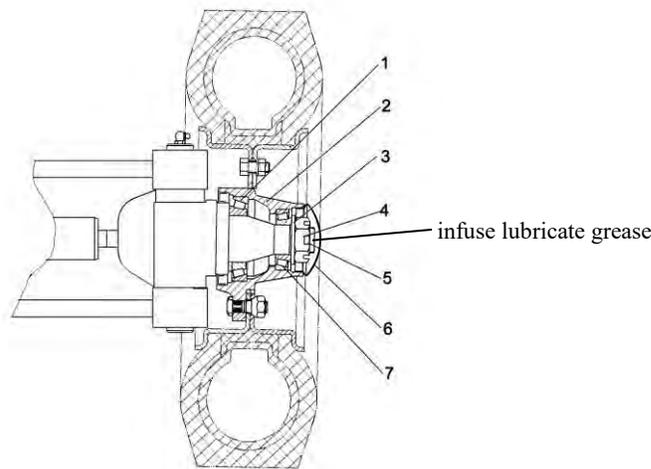

figure 2-38 Adjustment for pretightening force
(1) See figure 2-38, lubricate inner cavity of wheel hub, inside or outside bearing and cover of wheel hub, meanwhile, lubricate oil seal
(2) Fit bearing outer ring on wheel hub and fit wheel hub on kunckle shaft.
(3) Fit washer and tighten castle nut, its tightening torque is 206-235N.m(21-24kgm),then loose castle nut, tightening nut again, at this time, the torque is 9.8N.m(1kgm)
(4) Tap wheel hub gently by wood hammer and rotate wheel hub 3-4 circle to ensure there is no loose of wheel hub.
(5) Tighten castle nut and make slot aim at split pin hole of kunckle
(6) Tap wheel hub gently by wood hammer again, rotate wheel hub 3-4 circle by hand to ensure rotation stability, and measure rotation torque to ensure it between 2.94-7.8N. m(0.3-0.8kgm)
(8) After rotation torque is regulated at its standard value, lock castle nut by split pin